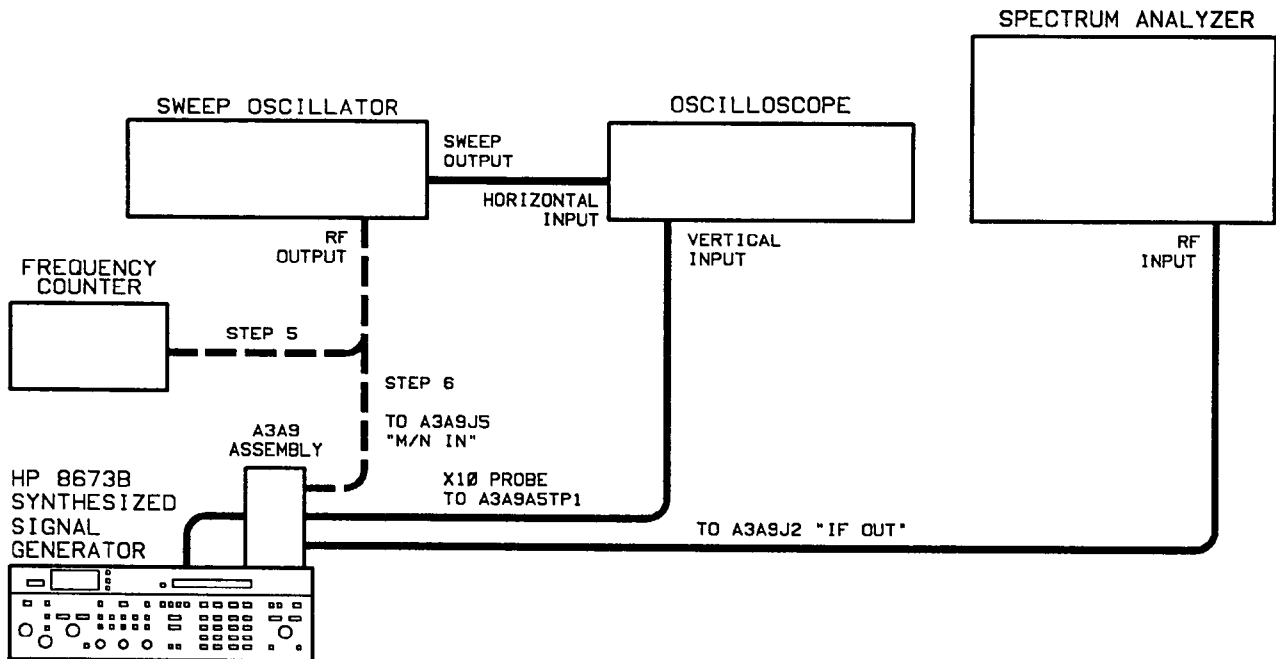

Figure 5-10. YTO Loop Sampler Adjustment Test Setup
6. Connect the equipment as shown in figure 5-10. Connect the Signal Generator's mains power cord and set the LINE switch to ON.